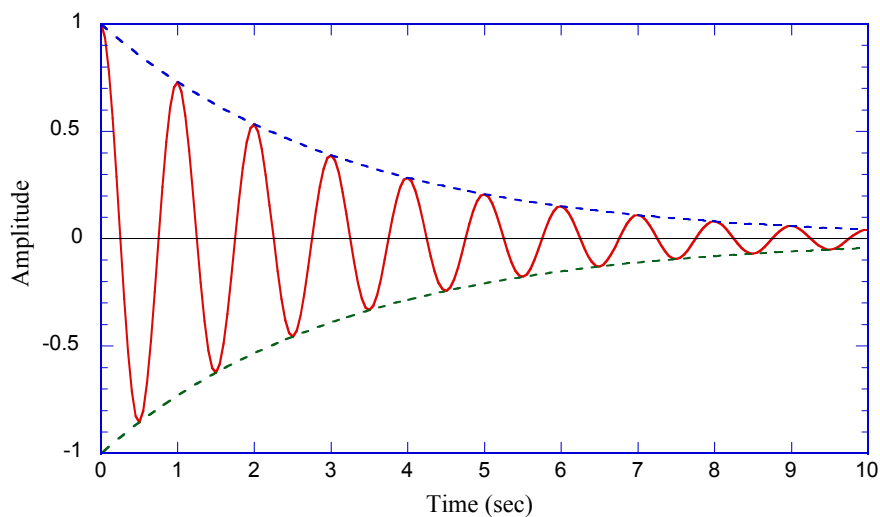

Fig. 2. Plot of $A(t) = e^{-(\pi/10)t} \cos 2\pi t$. The dashed lines are plots of the exponential factor.
The function for x , Equation (19), is sketched in Fig. 2